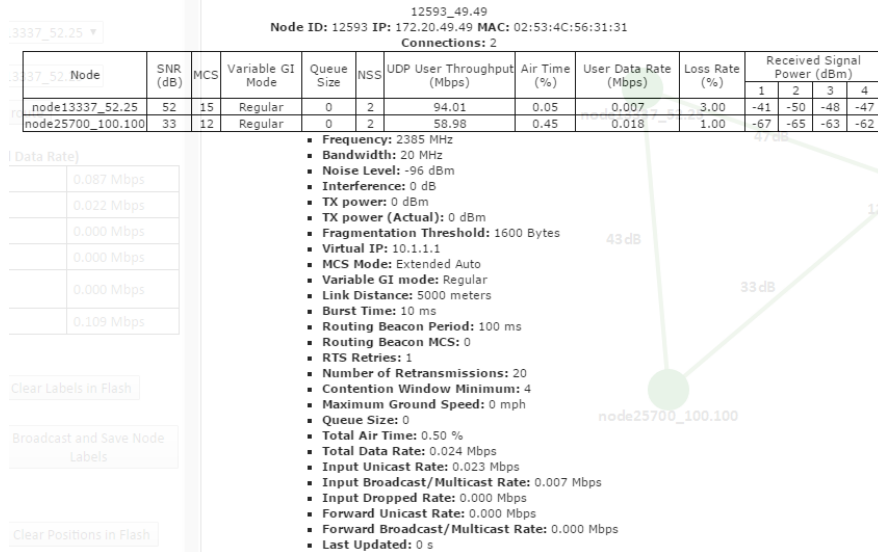

Figure 54 Individual Node Characteristics
- **Individual Node Characteristics** – By simply rolling the mouse over any node in the network, users can view key operating characteristics of the node. **Figure 54** shows an example of this for 'node12593'. The characteristics shown are: